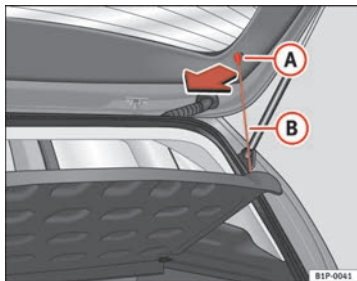

Fig. 105 Rear shelf
- Unhook the loops ⇒ fig. 105 **B** from housings **A**